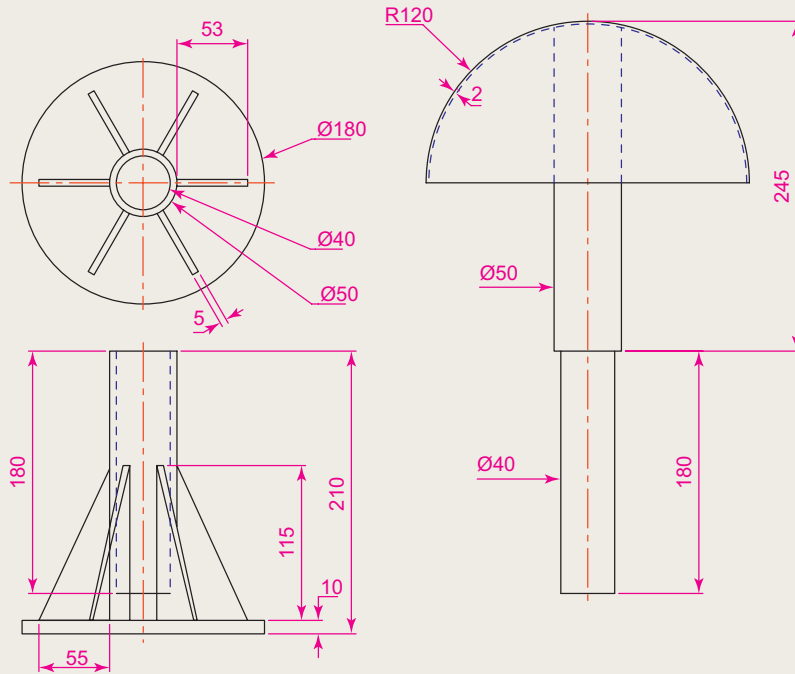

Fig. 14.46 Exercise 3 – orthographic projections
- Working to the dimensions given in the two orthographic projections (Fig. 14.46), and working on two layers of different colours, construct an assembled 3D model of the one part inside the other.